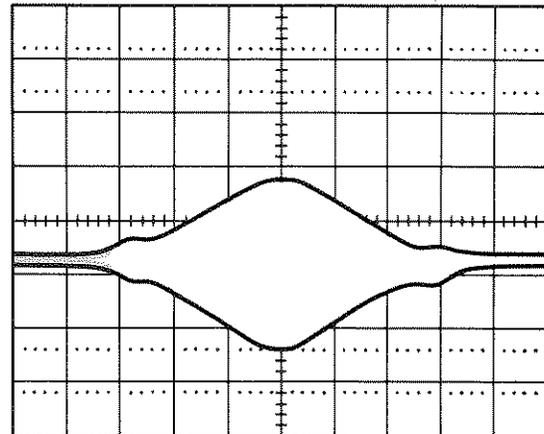

Figure 5-40. 50 MHz Birdie
5. Adjust oscilloscope Channel B vernier for a horizontal deflection of exactly 10 divisions. Set 8350A CF = 1 GHz,  $\Delta F = 10$  MHz. Select 50 MHz Markers. Center the birdie envelope on the screen with plug-in front panel FREQ CAL control. (See Figure 5-40.) Then select 10 MHz Markers. Change  $\Delta F$  to 1 MHz. Recenter birdie. Display is now calibrated for 100 kHz/Division.